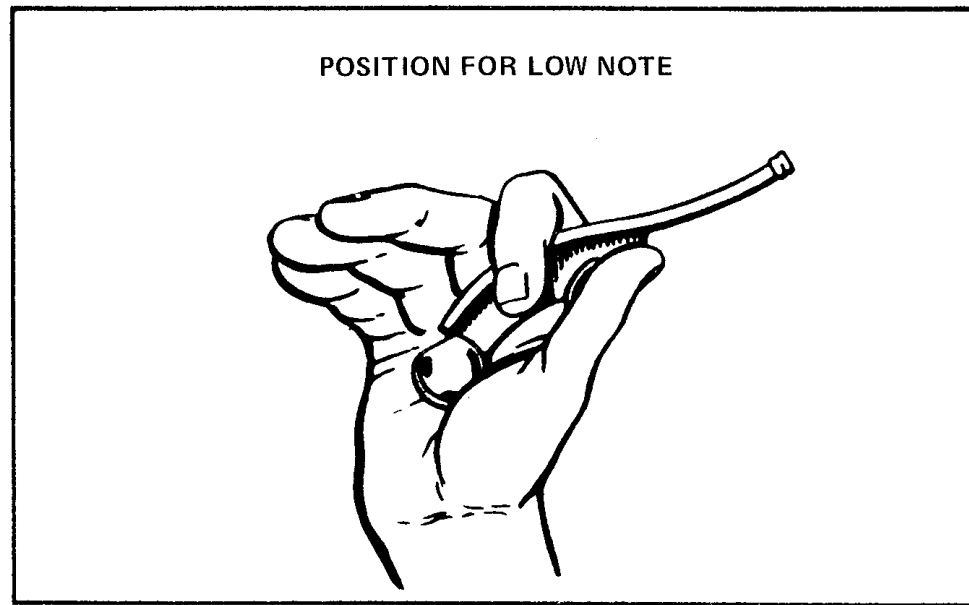

Figure 9-3 Position for Low Note
7. **Low Note** — The low note is sounded by blowing into the gun with the fingers clear of the hole. See Figure 9-3.